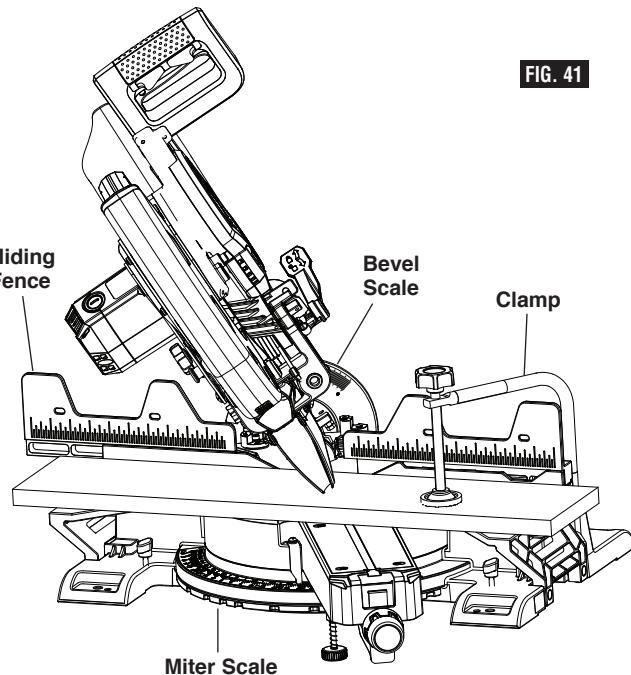

FIG. 41
2. Properly position workpiece. Make sure workpiece is clamped firmly against the table or the fence (figure 41).
**WARNING** Be aware of the path of the saw blade. Make a dry run with the saw off by conducting a simulated cutting cycle, and observe the projected path of the saw blade. Keep hands at least six (6) inches away from the projected path of the saw blade.